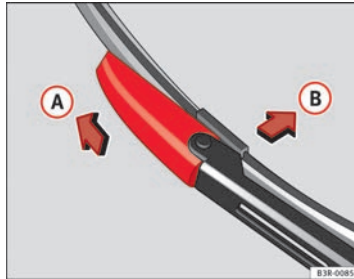

Fig. 173 Removing the wiper blade
- Slide the retainer catch on the wiper blade in the direction indicated ⇒ Fig. 173 (A). Hold onto the wiper blade at the same time.
- Pull the wiper blade (B) out of its mounting on the wiper arm.